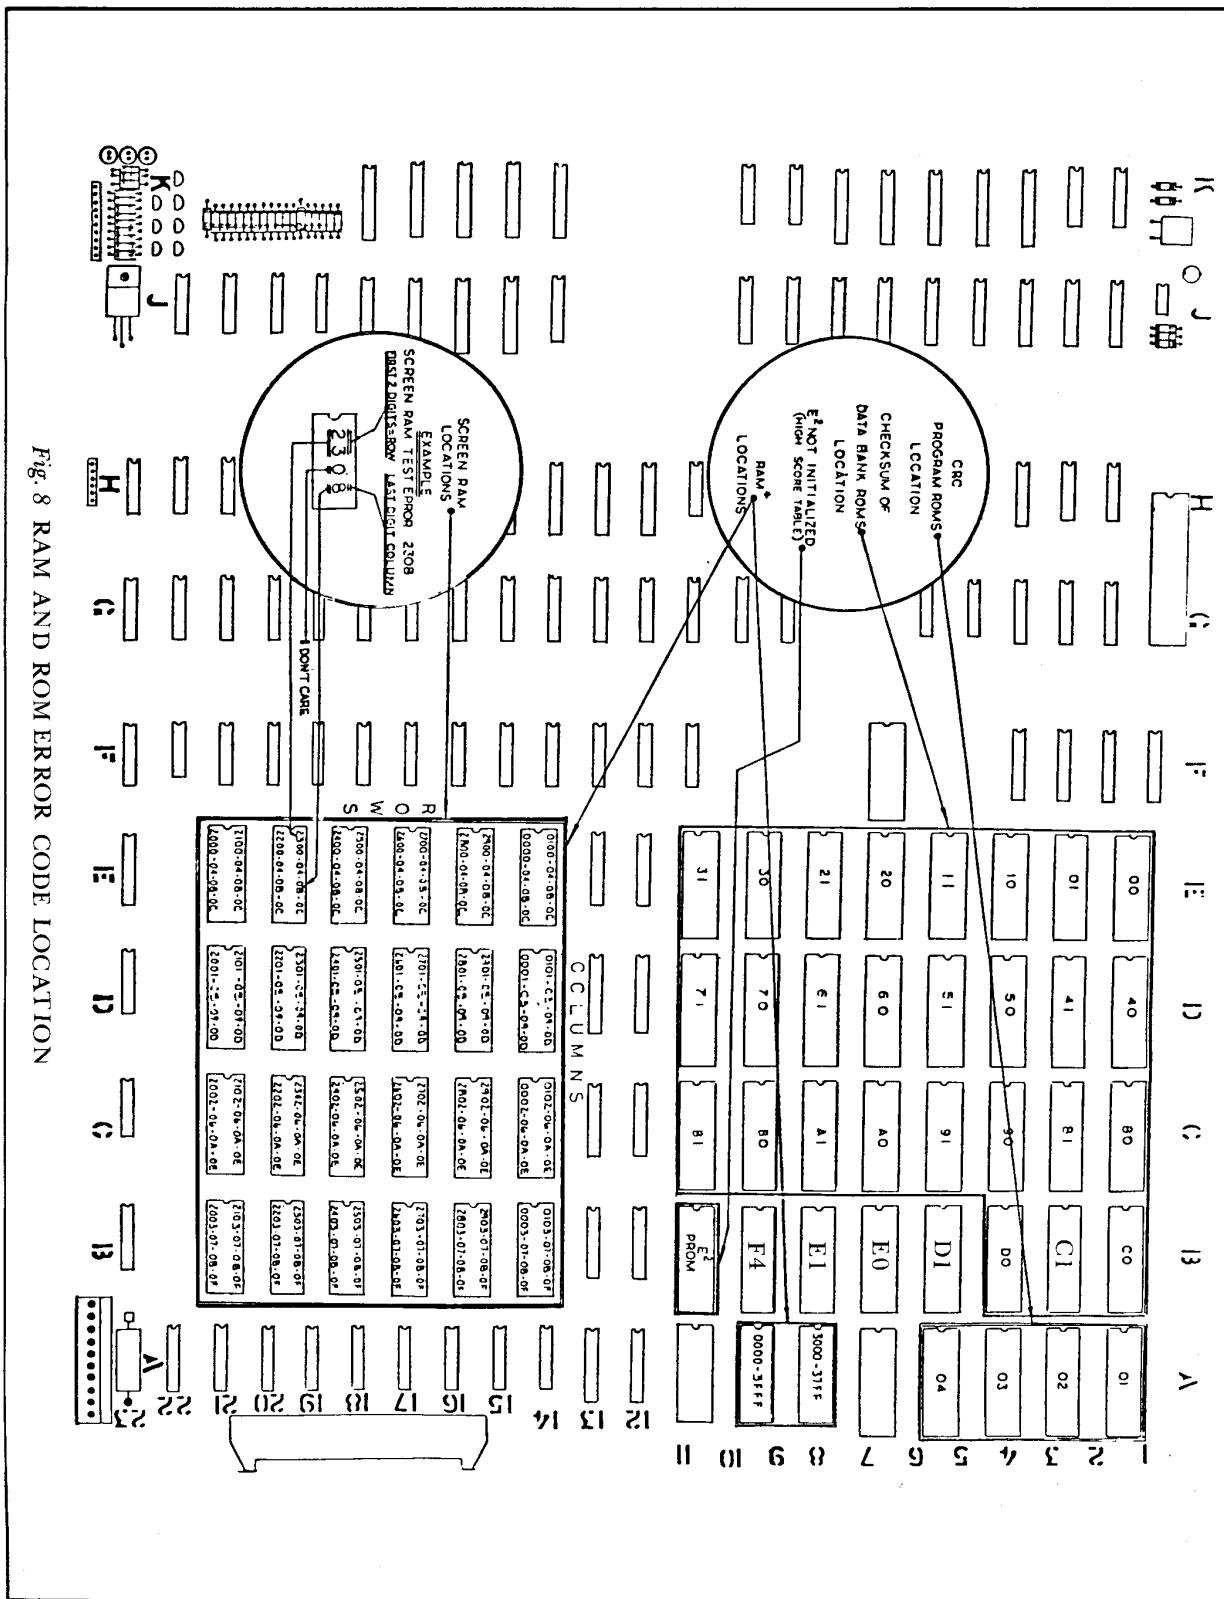

Fig. 8 RAM AND ROM ERROR CODE LOCATION
* See Diagnostic Error Code FIG. 8 for suspected location of RAM or ROM.